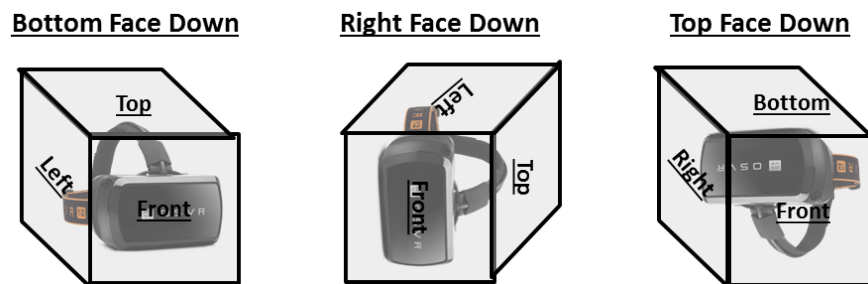

Figure 3: Headset Orientation Example
- b. Orient the device so that it is sitting on each face of the cube sequentially. For example, start with the device positioned normally (bottom face of the cube down). Then orient it so that the right side of the cube is facing down. Then continue through the rest of the faces of the cube. See Figure 3 for an example.